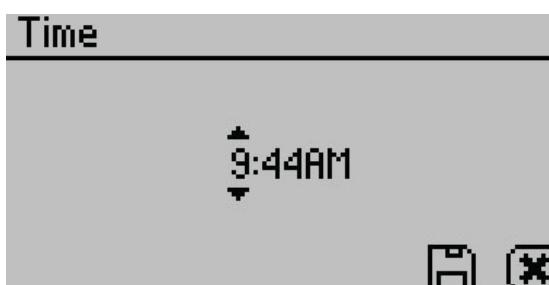

Figure 36 Time option
- **Time.** Select to set the time in the instrument. Use **RIGHT** and **LEFT** to change between the hour and minute categories and **UP** and **DOWN** to change the individual values (Figure 36). The hour setting automatically changes between AM and PM. The time is recorded with each water activity reading.